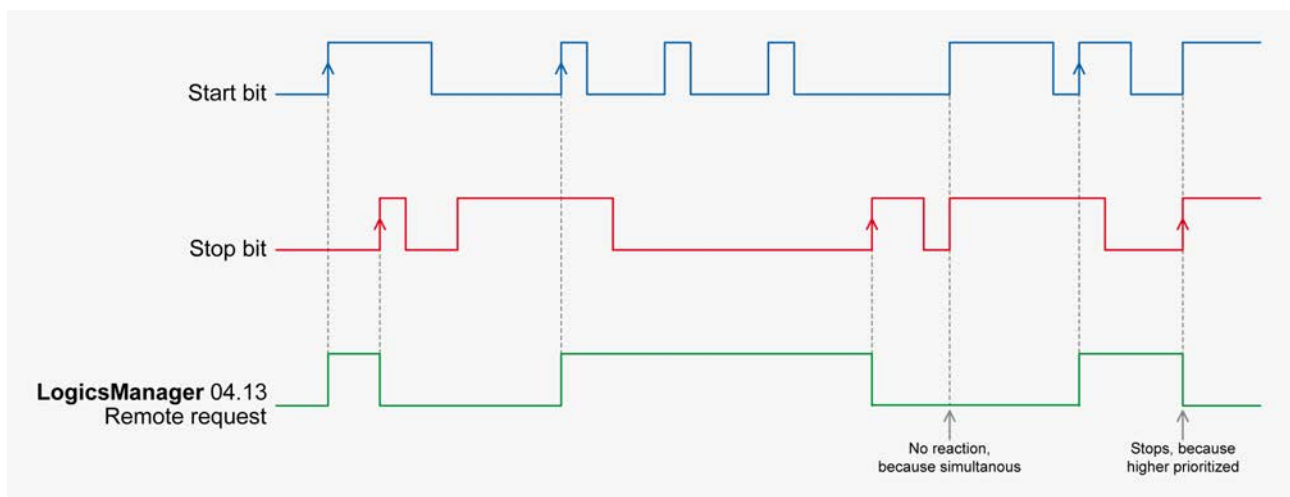

Fig. 300: : Remote control - start/stop priority
*The internal parameter 503 of the easYgen must be set to react on the remote control instructions. This is performed by sending rising signals for the respective bits (refer to Fig. 300 for the priority of start and stop signals).*
Fig. 300 shows the reaction of the command variable on the various status changes of the bits.